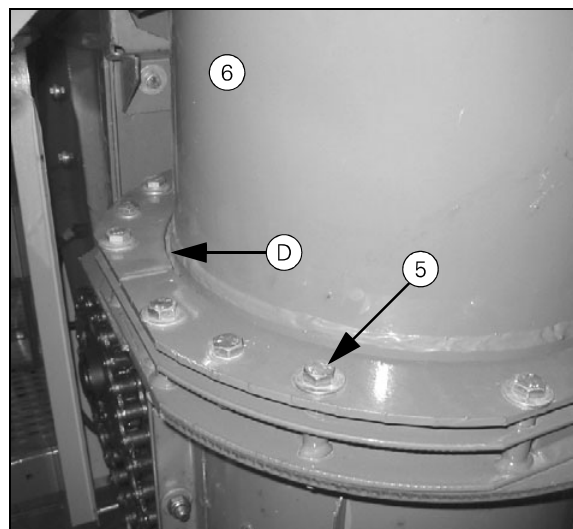

Fig. 10
- Fit the swivel bearing so that the join at the clamps (D) (Fig. 10) is at right angles to the machine.